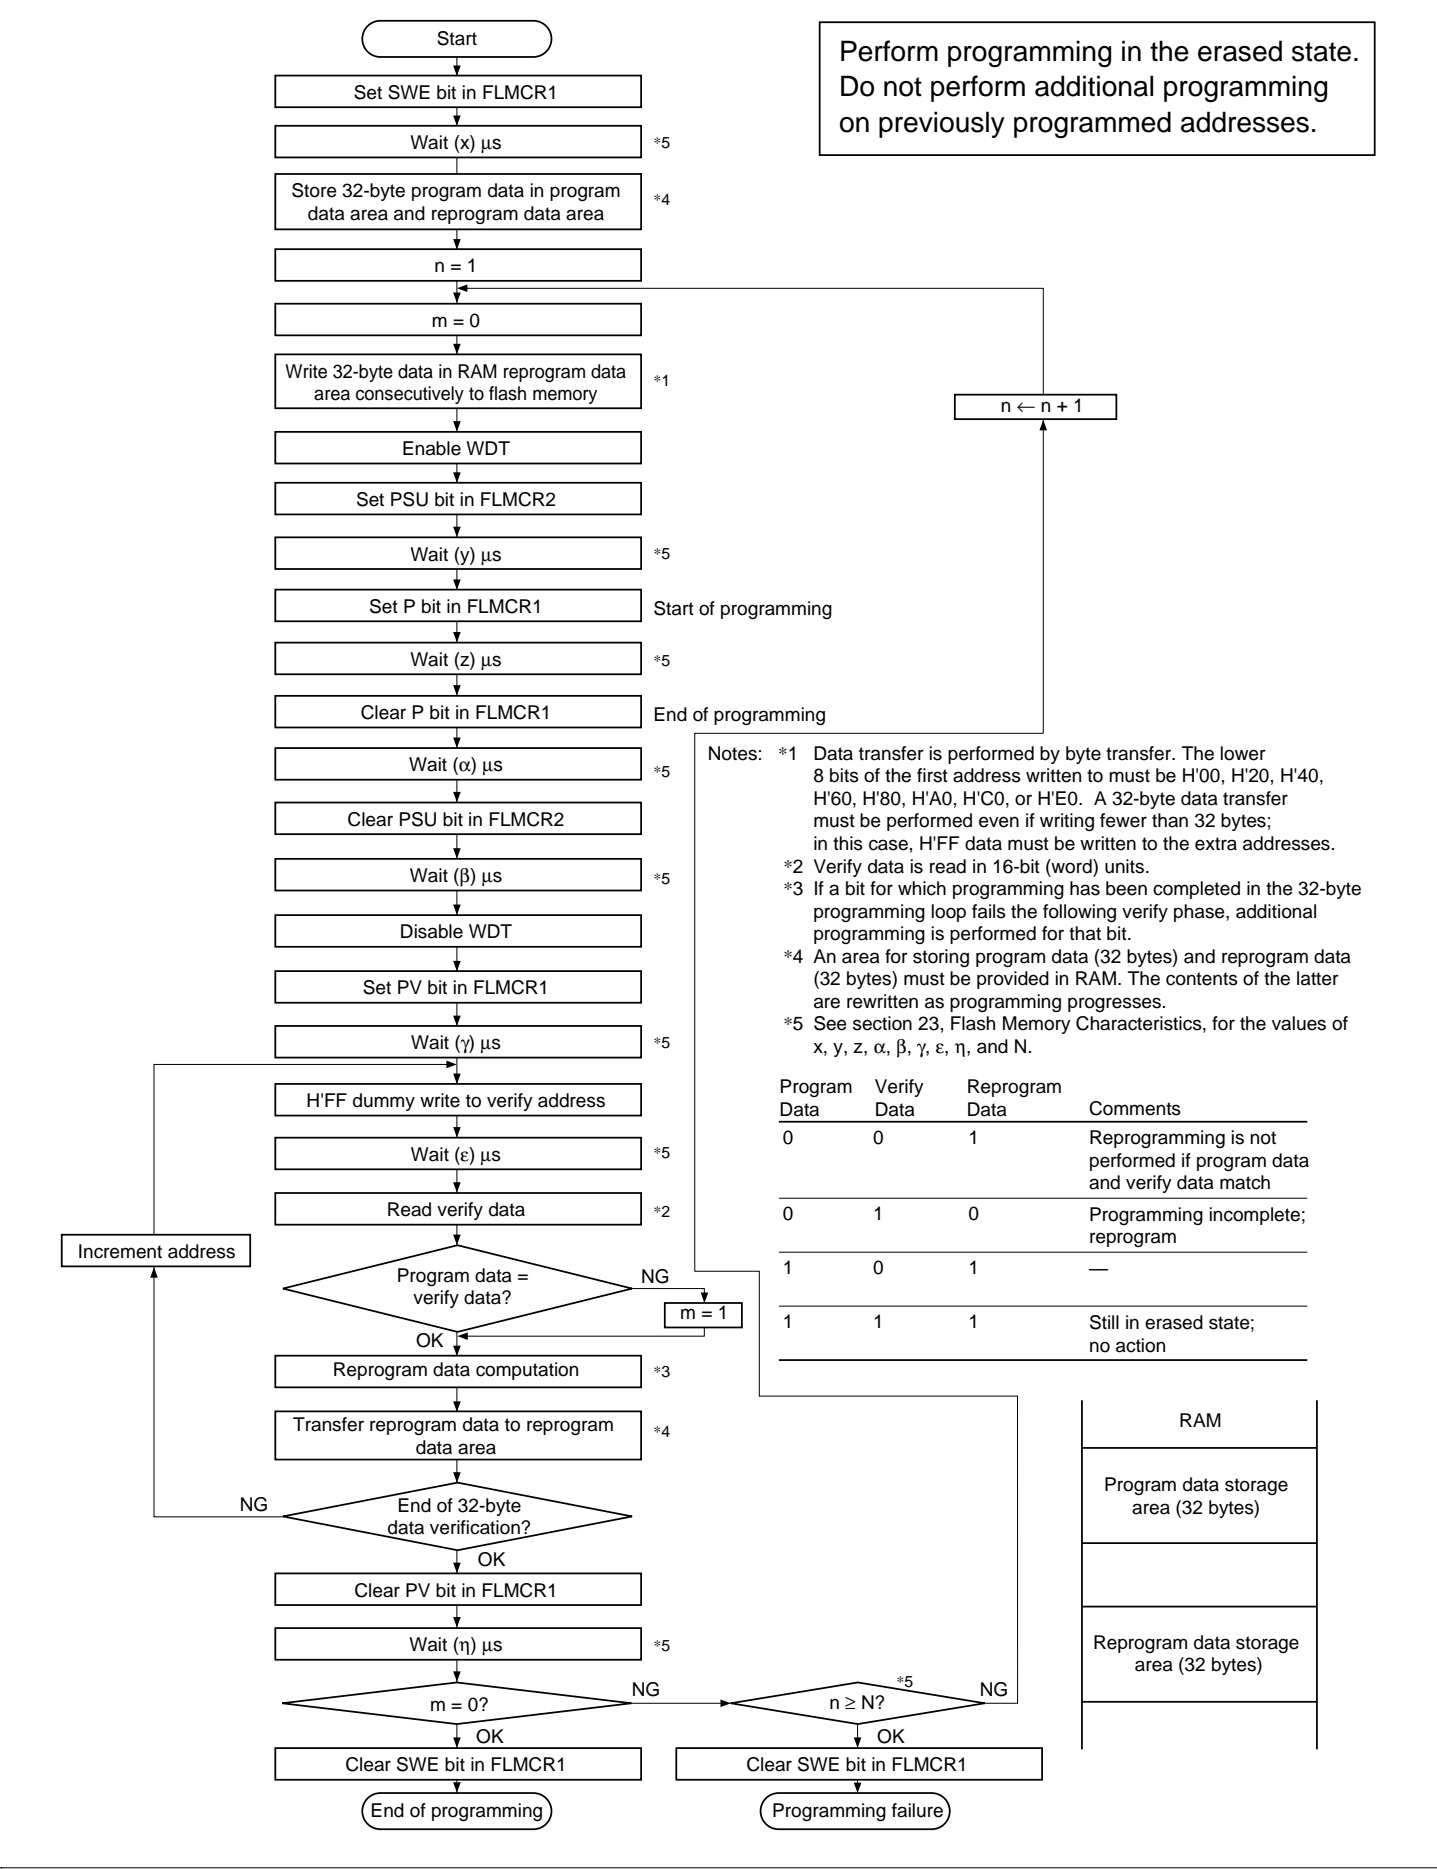

Figure 21.12 Program/Program-Verify Flowchart
Follow the procedure shown in the program/program-verify flowchart in figure 21.12 to write data or programs to flash memory. Performing program operations according to this flowchart will enable data or programs to be written to flash memory without subjecting the device to voltage stress or sacrificing program data reliability. Programming should be carried out 32 bytes at a time.
After the elapse of a given programming time, the programming mode is exited (the P bit in FLMCR1 is cleared, then the PSU bit in FLMCR2 is cleared at least (α) μs later). The watchdog timer is cleared after the elapse of (β) μs or more, and the operating mode is switched to program-verify mode by setting the PV bit in FLMCR1. Before reading in program-verify mode, a dummy write of H'FF data should be made to the addresses to be read. The dummy write should be executed after the elapse of (γ) μs or more. When the flash memory is read in this state (verify data is read in 16-bit units), the data at the latched address is read. Wait at least (ϵ) μs after the dummy write before performing this read operation. Next, the originally written data is compared with the verify data, and a bit generation operation is performed for reprogram data (see figure 21.12) and transferred to the reprogram data area. After 32 bytes of data have been verified, exit program-verify mode, wait for at least (η) μs , then clear the SWE bit in FLMCR1. If reprogramming is necessary, set program mode again, and repeat the program/program-verify sequence as before. However, ensure that the program/program-verify sequence is not repeated more than (N) times on the same bits.